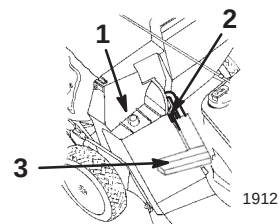
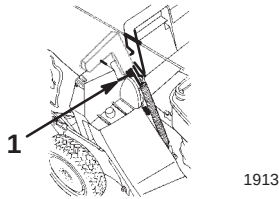

Figure 10
Figure 11
2. Ensure that the discharge door handle is fully forward and that the pin is engaged in the catch (Fig. 10).
3. Slide the hole in the bag frame onto the retaining post on the discharge tunnel (Fig. 10).
5. Open the discharge door by pulling the discharge door handle forward until the pin clears the ramp on the bag door and moving the handle rearward until the pin locks in the bag notch (Fig. 11).
2. Pull the discharge door handle up and out of the bag notch (Fig. 11) and pull it forward until it engages the catch (Fig. 10).